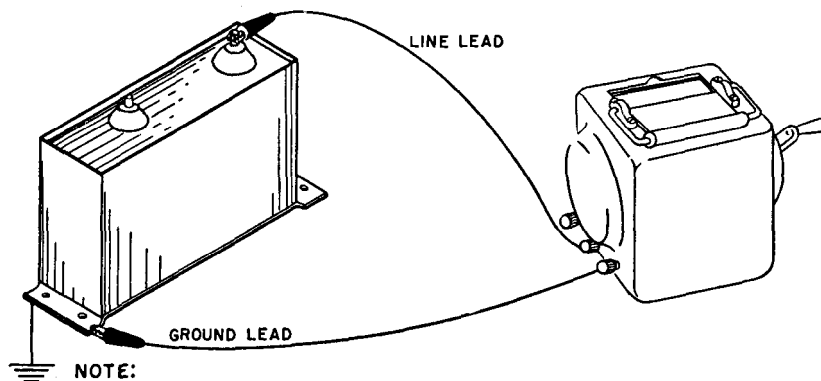

Figure 10. Connections for testing capacitors.
a. Connect a test lead from the GROUND terminal of the ohmmeter to the case of the capacitor (fig. 10).